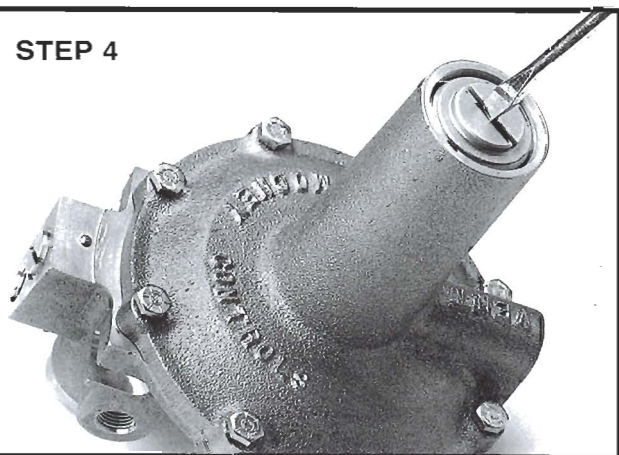

Figure 19. The spring tension is released by unscrewing the Spring Adjuster.
4. Remove top Cover from the spring barrel of the pilot and release spring tension by unscrewing the Spring Adjuster (refer to Figure 19).